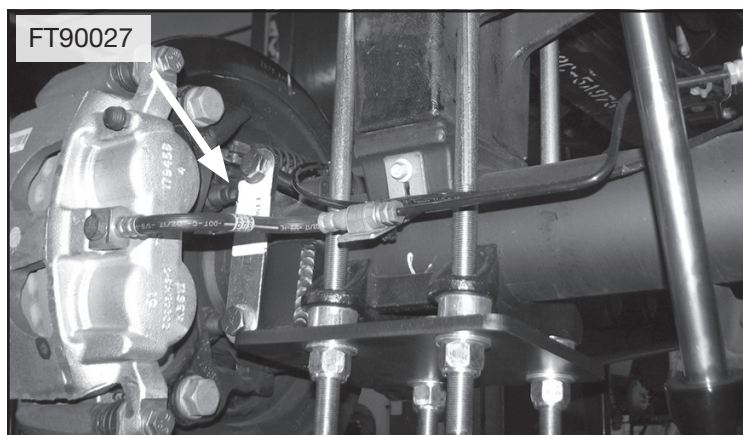

FIGURE 5 - STEP 5
5. Using two 1/2-13 x 6" bolts, washers and nuts, install the FT90027 upper clamp bracket on the backside of the axle housing.. Torque the u-bolt nuts to 170 ft-lbs and upper 1/2" hardware to 90 ft-lbs. **SEE FIGURE 5**